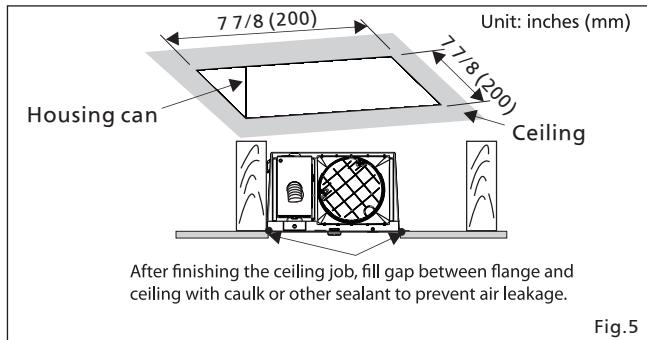

Fig.5
7. Finish the wall work. Ceiling hole should be aligned with the inside edge of the flange. (Fig. 5)